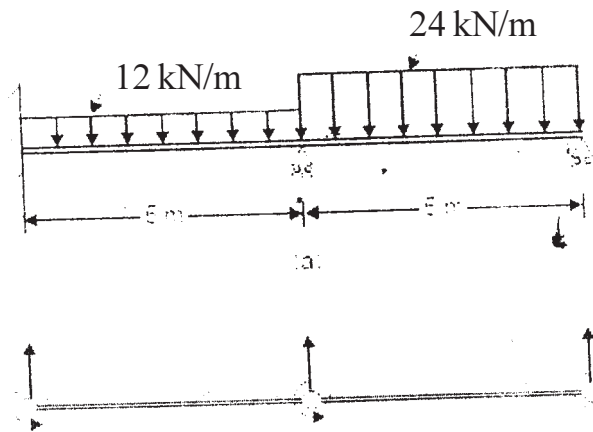

Fig.7.
b) Analyze the beam shown in Fig. 7 by finite element method and determine the end reactions. Also determine the deflections at mid spans given  $E = 2 \times 10^5 \text{ N/mm}^2$  and  $I = 5 \times 10^6 \text{ mm}^4$ . [12]